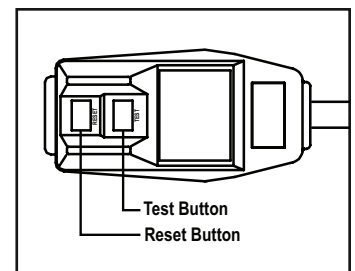

Figure 2
2. Press RESET (See Figure 2).